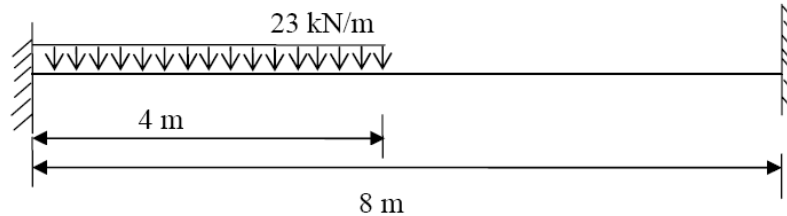

Figure 1:
1. Analyze the fixed beam shown in Figure 1 and draw shear force and bending moment diagrams. Locate the points of contraflexure. [16]